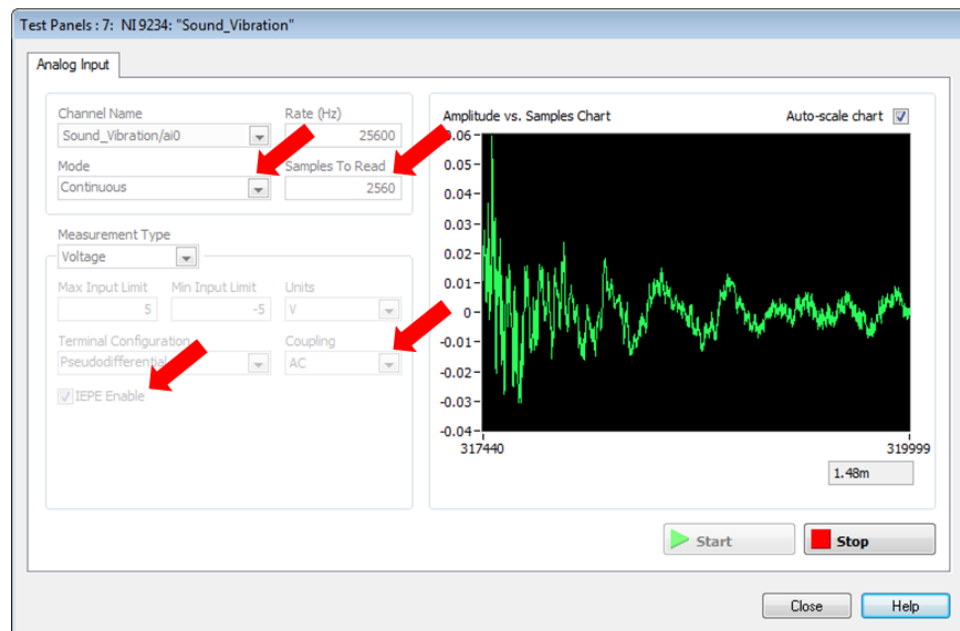

Figure 3. The test panel is used to confirm electrical connections.
5. When the test panel opens, change the **Samples to Read** to 2560, change the **Mode** to Continuous, select the button next to **IEPE Enable**, and change the **Coupling** type to AC, as shown in Figure 3.